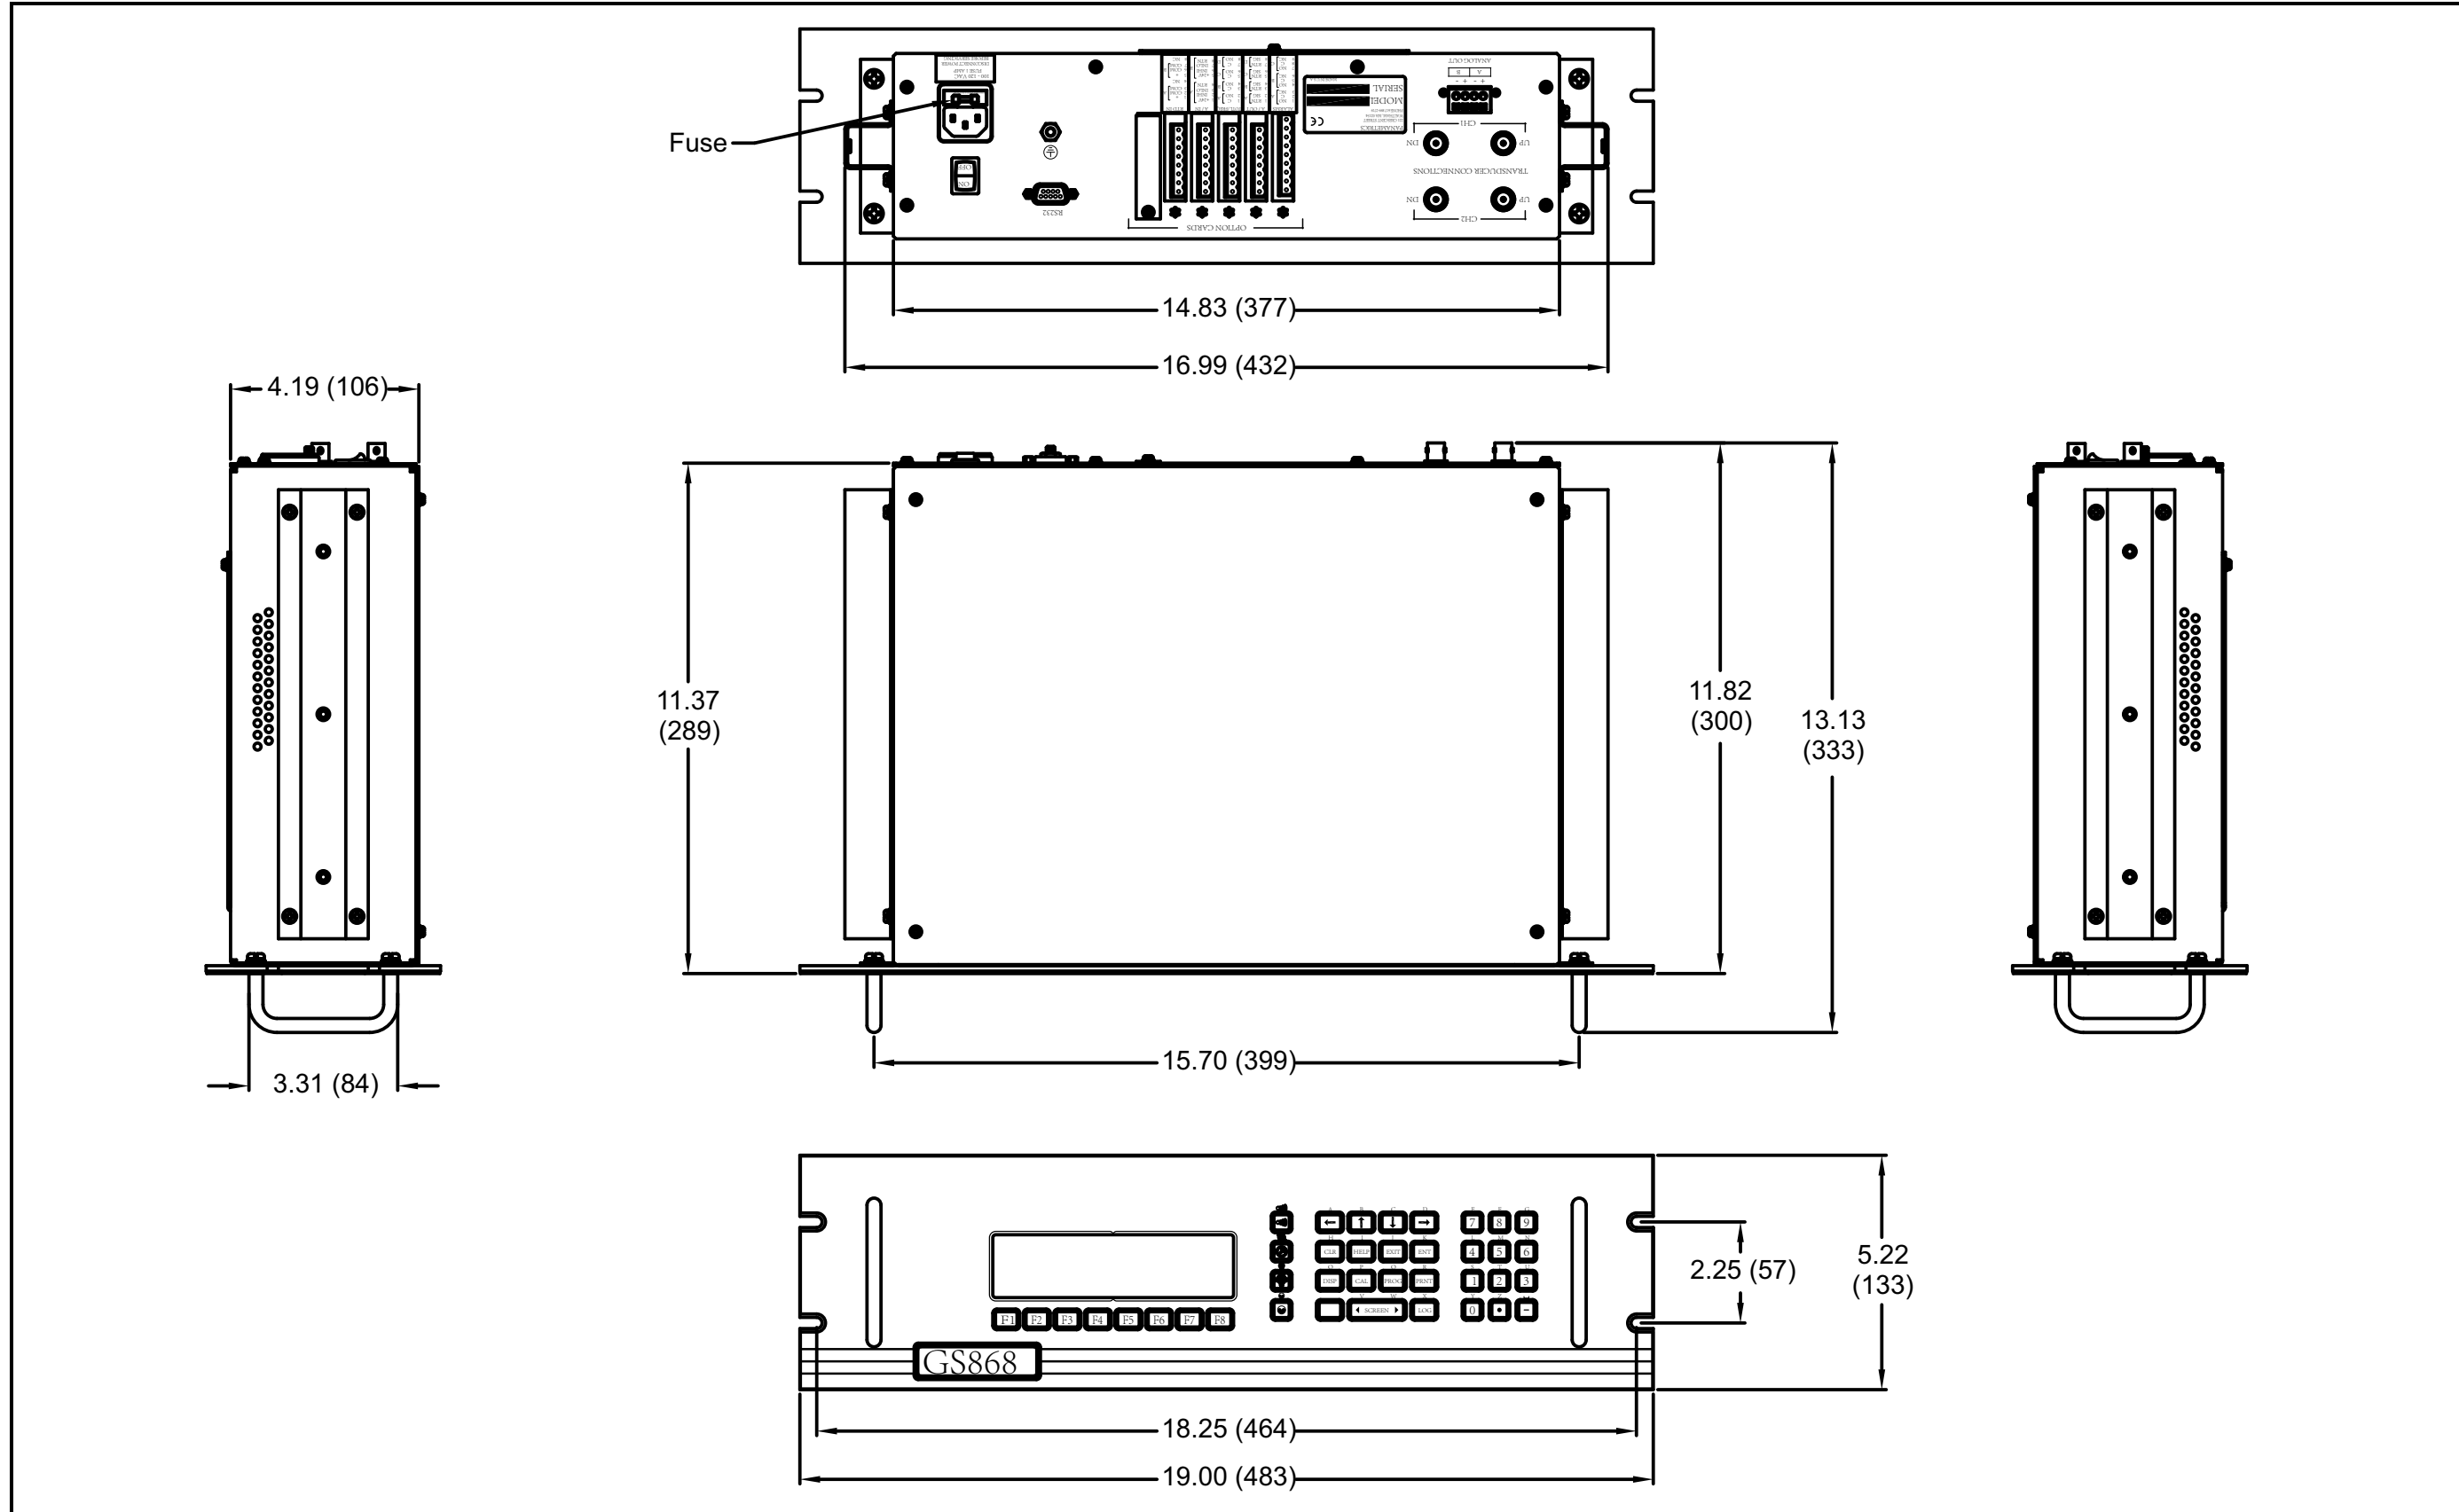
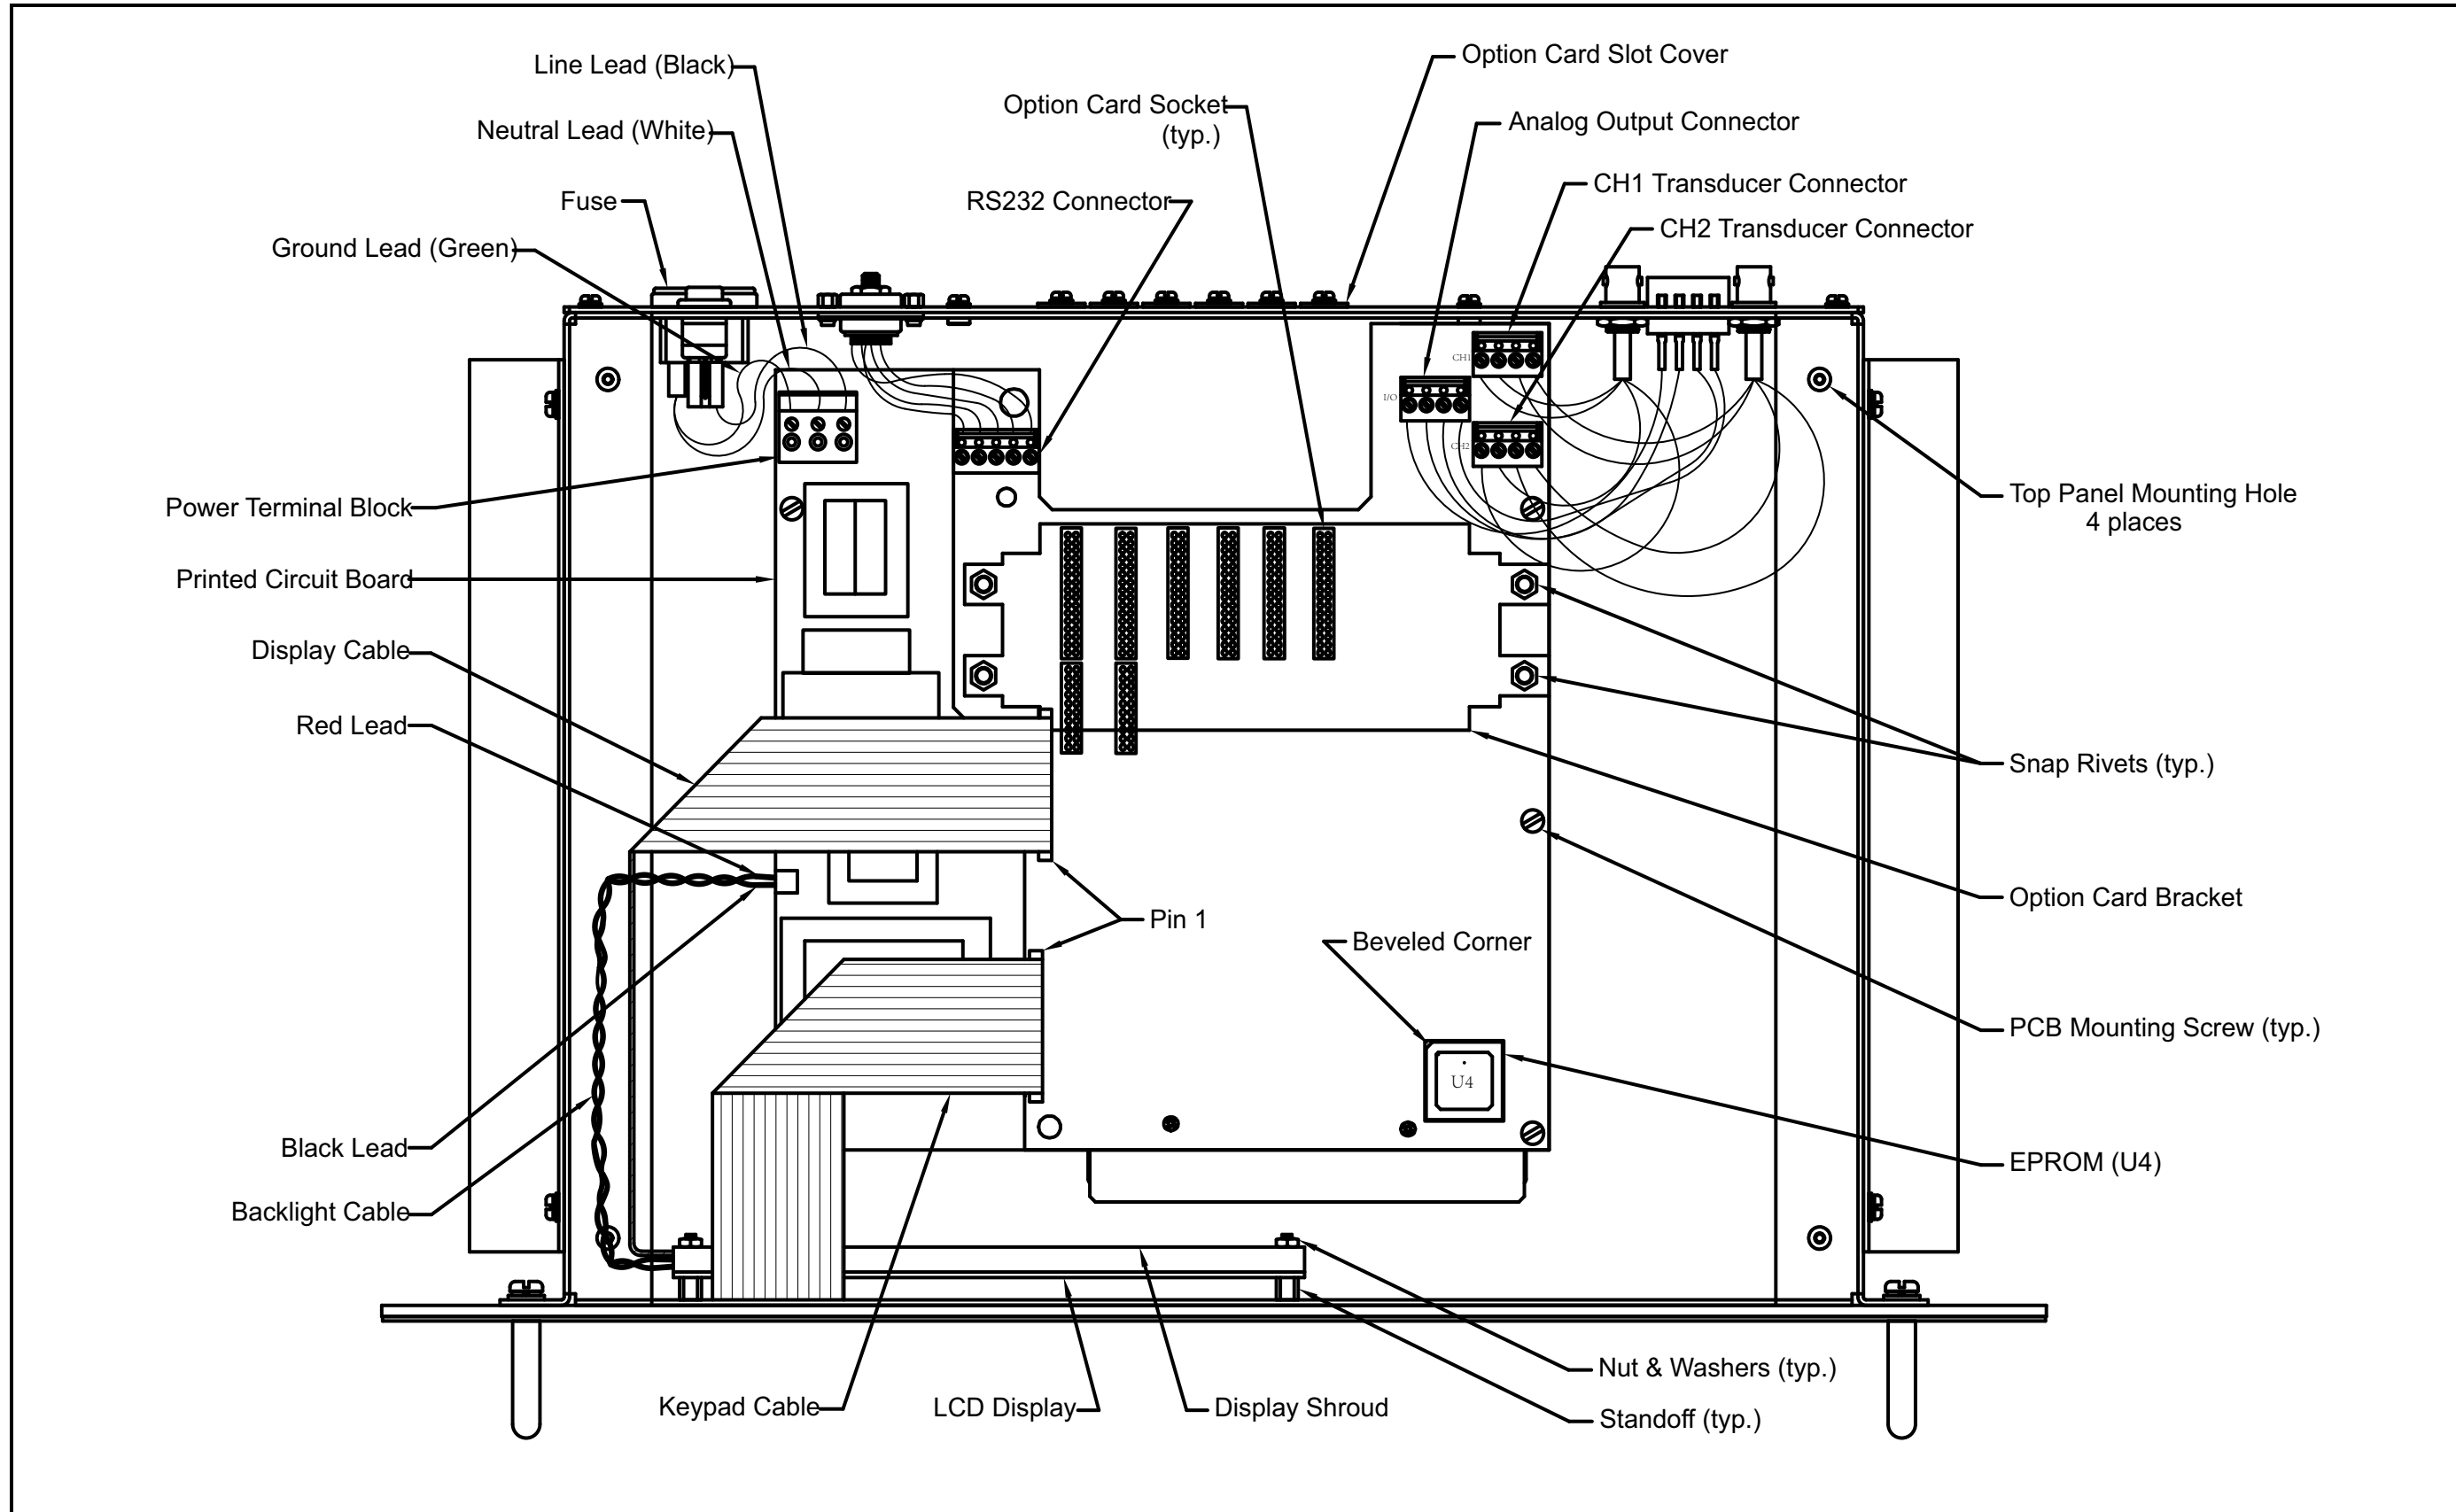

Figure 10: Model GS868 Rack Mount Enclosure Dimensions - (ref. dwg #712-1078)
Figure 11: Model GS868 Rack Mount Console Assembly - (ref. dwg #705-849)
Refer to Figure 10 on page 51 and Figure 11 on page 52 for the location of the relevant components, while completing the following procedures. If the top panel of the meter is accessible, service may be performed without removing the meter from the rack. Otherwise, disconnect all rear panel electrical connections and remove the meter from the rack before proceeding.
If it has been determined that the fuse in the Model GS868 requires replacement, refer to Figure 10 on page 51 and Figure 11 on page 52, and complete the following steps:
Refer to Figure 11 on page 52 and complete the following steps:
EPROM replacement may be required to replace a defective chip or to upgrade to a newer software version. To replace the EPROM, refer to Figure 11 on page 52 and complete the following steps:
To replace the LCD display, refer to Figure 11 on page 52 and complete the following steps:
5. Install the RS232, ANALOG OUT and TRANSDUCER connectors onto the printed circuit board at the locations indicated in Figure 11 on page 52. Make sure the marked pin #1 sides of the connectors face the right side (keypad side) of the enclosure.